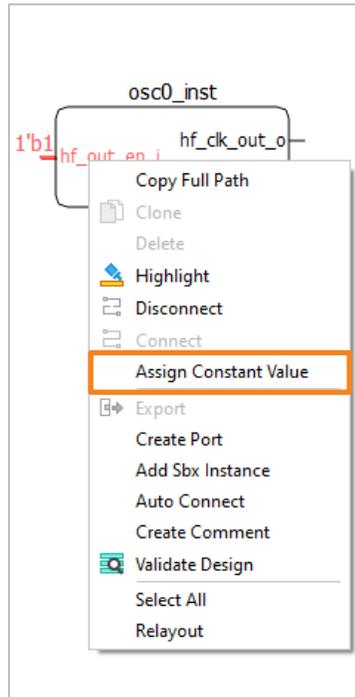

Figure 2.87. Right-click Menu of an Input Pin
1. Select the desired pin and right-click the pin. Choose **Assign Constant Value** (Figure 2.87).